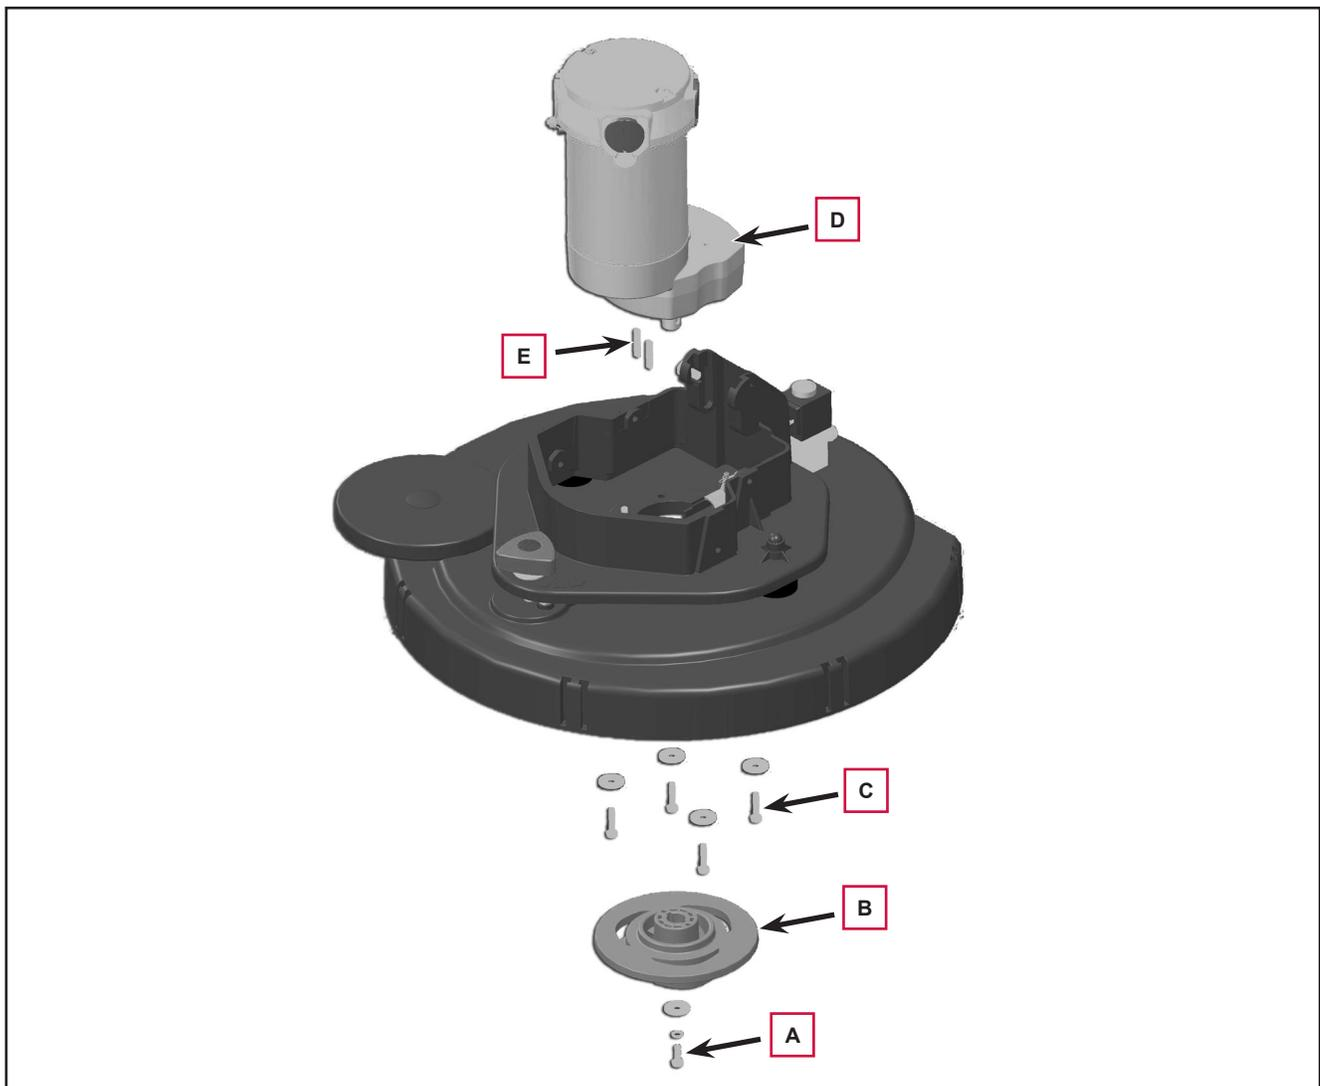

Figure 12
2. Working at the bench, remove the screw (A) (Figure 12) of the brush motor.
3. Use a puller to remove the brush hub (B).
4. Remove the screws (C).
5. Remove the brush motor (D).
6. Recover the key (E).